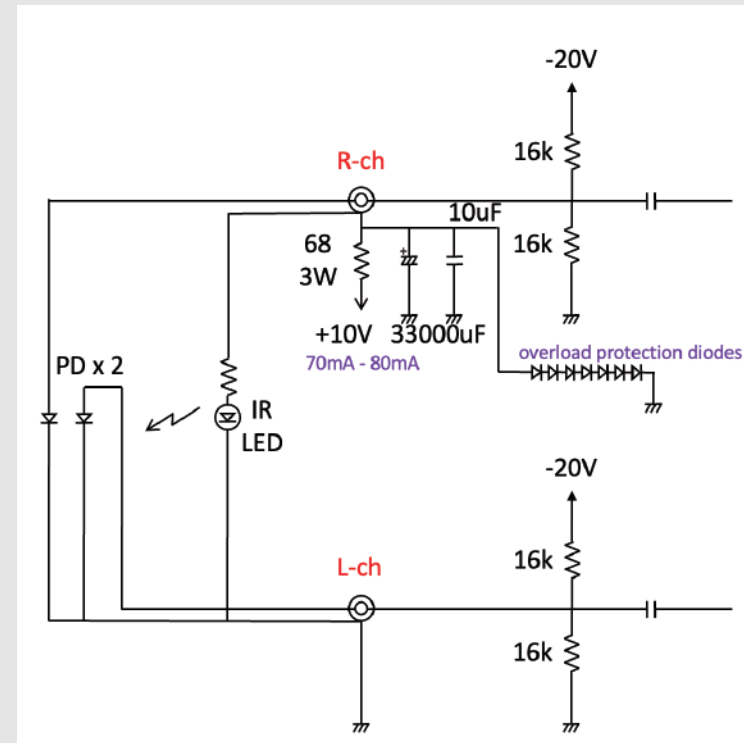

fig. 3
**A** In DS Audio' s optical pickup cartridges, infrared LED for light source and photo detector (PD) are connected as shown in fig.3. In order to protect PD from overload damage, supply voltage to the infrared LED must be kept lower than +5V in any situation.